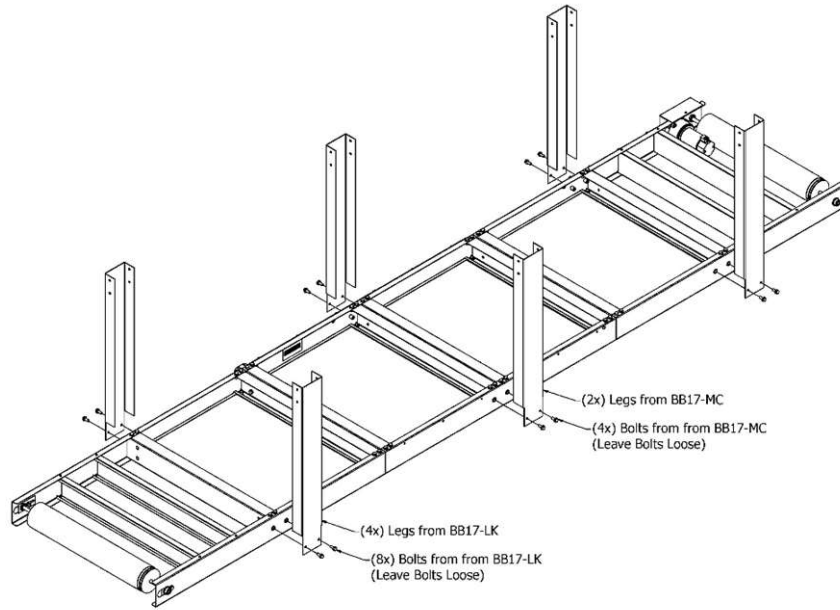

Figure 2
6. Fasten (6x) legs with (12x) bolts. Leave bolts loose. (See Figure 2)